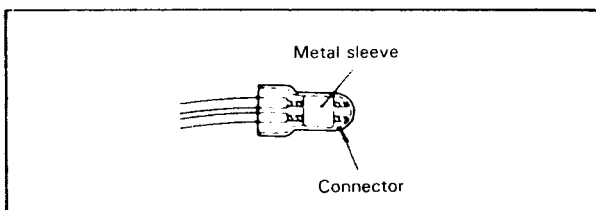

Fig. 6
- 4) As shown in Fig. 6, use the crimping tool to crimp the metal sleeve at the center position. Be sure to crimp fully to the complete closure of the tool.